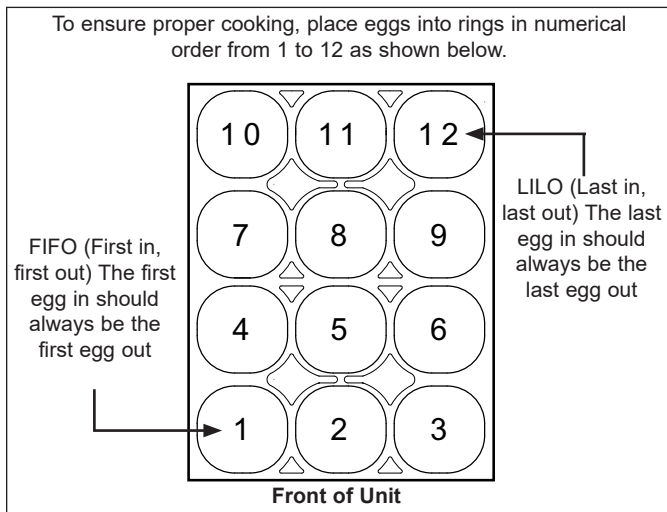

Figure 3. Egg Cooking Procedure
5. Crack the eggs into Egg Rings from right to left, starting at the row closest to the front (Figure 3).
13. Raise the Egg Rack completely off the eggs and remove the eggs starting with the **FIRST** egg added (far right of the first row of rings closest to the front of the unit) (Figure 3).